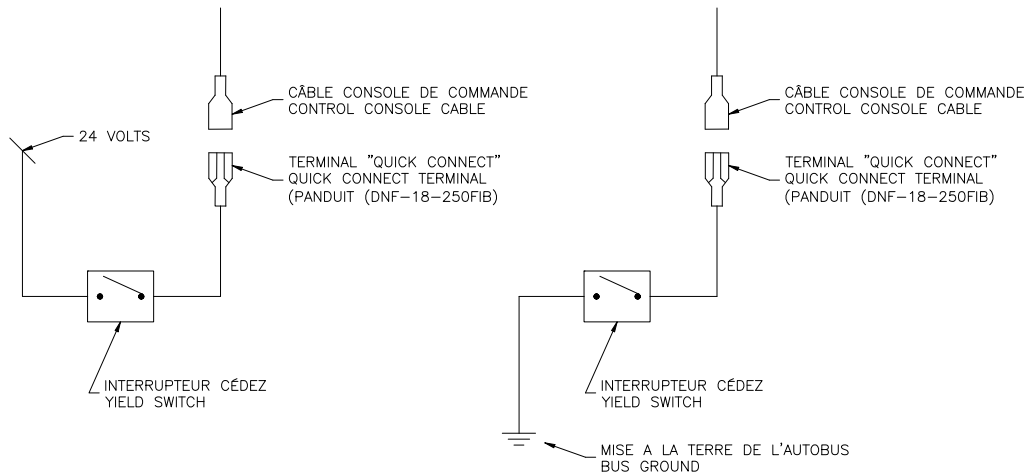

Figure 5: Yield Switch Connection
- Connect the yield signal switch wire to the bus distress switch. (See Figure 5).